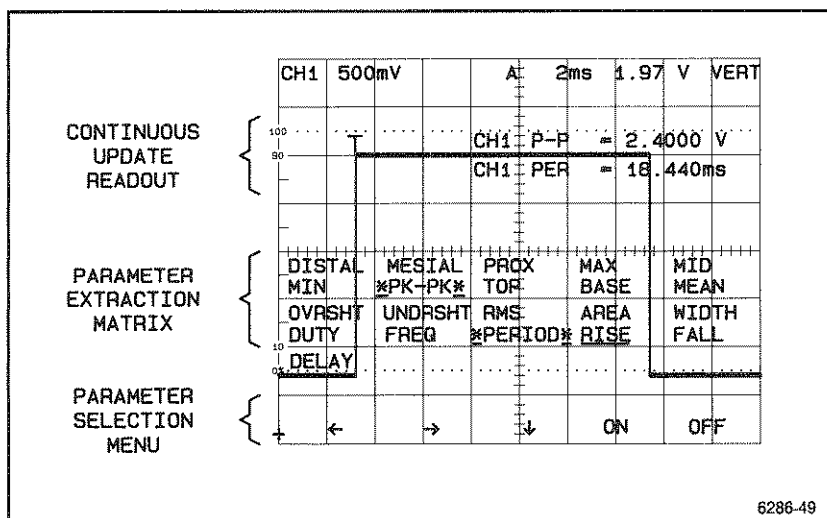

Figure 3-22. Continuous-Update mode for MEASURE.
5. Once the desired parameter is underlined, push ON in the menu to turn that parameter on. When on, the parameter will be bracketed with asterisks. (See Figure 3-22. The parameters PK-PK and PERIOD are on; RISE is selected, but presently turned off.)